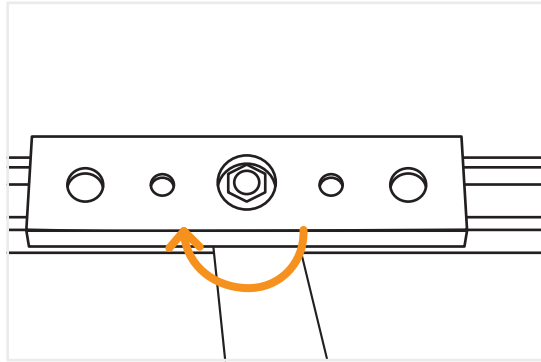

Fig. 1
- 2 Looking down on the top of the wheel plate, as shown in Fig. 1, the eccentric stud is locked into place with a hex nut.